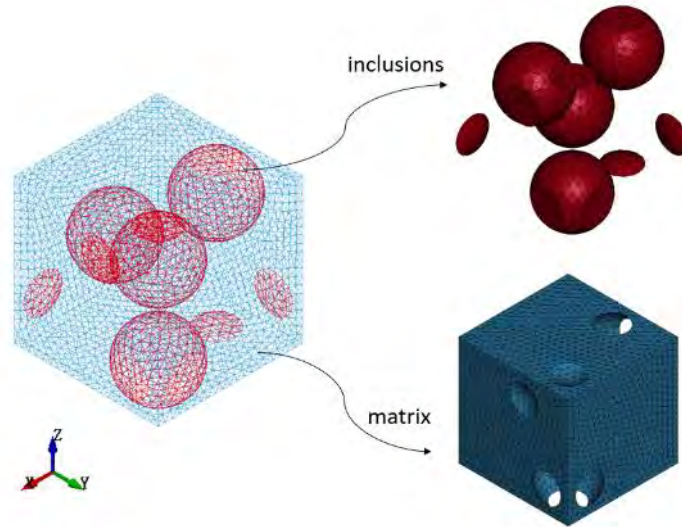

Figure 3. The RVE model for spherical particle-reinforced composites, for which the 10-node tetrahedron solid finite elements are employed
In Step (1), we construct the RVE model based on the particle geometry and volume fraction. Figure 3 shows the PDBC-matching finite element mesh consisted of particle phase and matrix as two parts